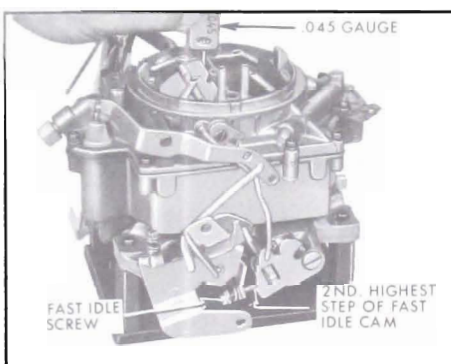

Figure 3-55—Checking Fast Idle Cam Adjustment
1. Fast Idle Cam Adjustment. Close throttle so that fast idle screw contacts second highest step of fast idle cam with side of screw against rise to high step of cam, then check clearance between choke valve and air horn dividing wall, using .045" Gauge (No. 55 drill). See Figure 3-55.